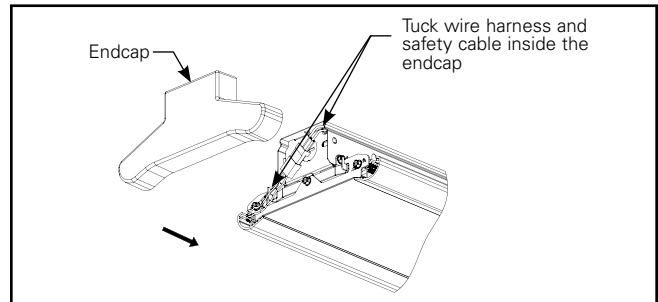
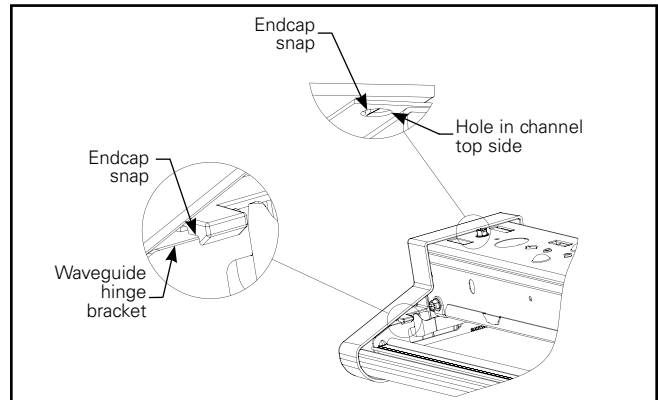

Figure 7.1.
Figure 7.2.
- A. Install endcap to fixture (Figure 7.1) Tuck wire harnesses and safety cable inside while installing. Endcap snaps (3 places) must fully engage onto the metal bracket. Engage top first and followed by 2 side snaps (Figure 7.2).